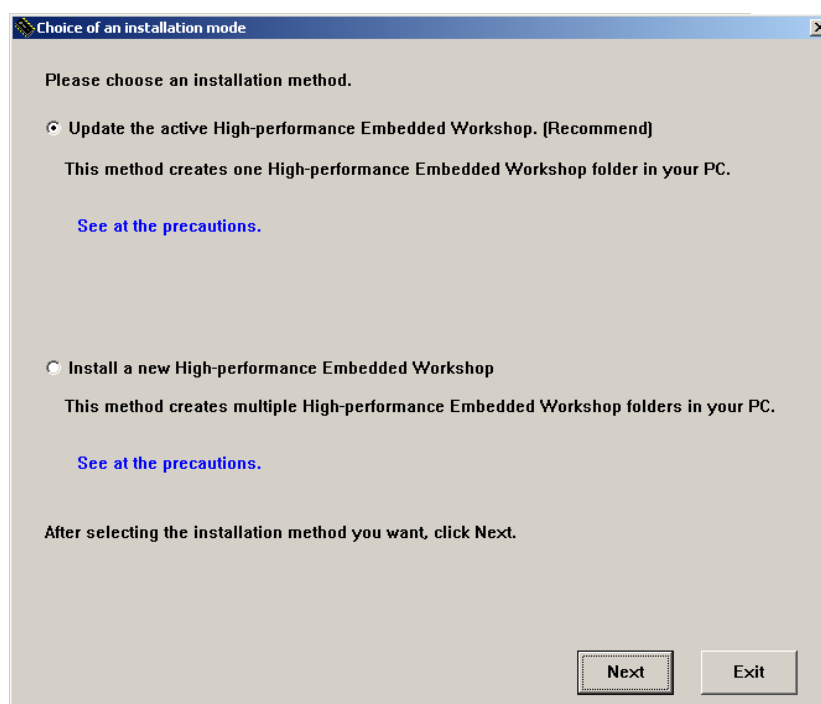

Figure 3.2.2 E10A-USB Software Installation (2/7)
- (2) Following dialog box will appear as Figure 3.2.2. Select the “**Update the active High-performance Embedded Workshop**” radio button and click “Next”.